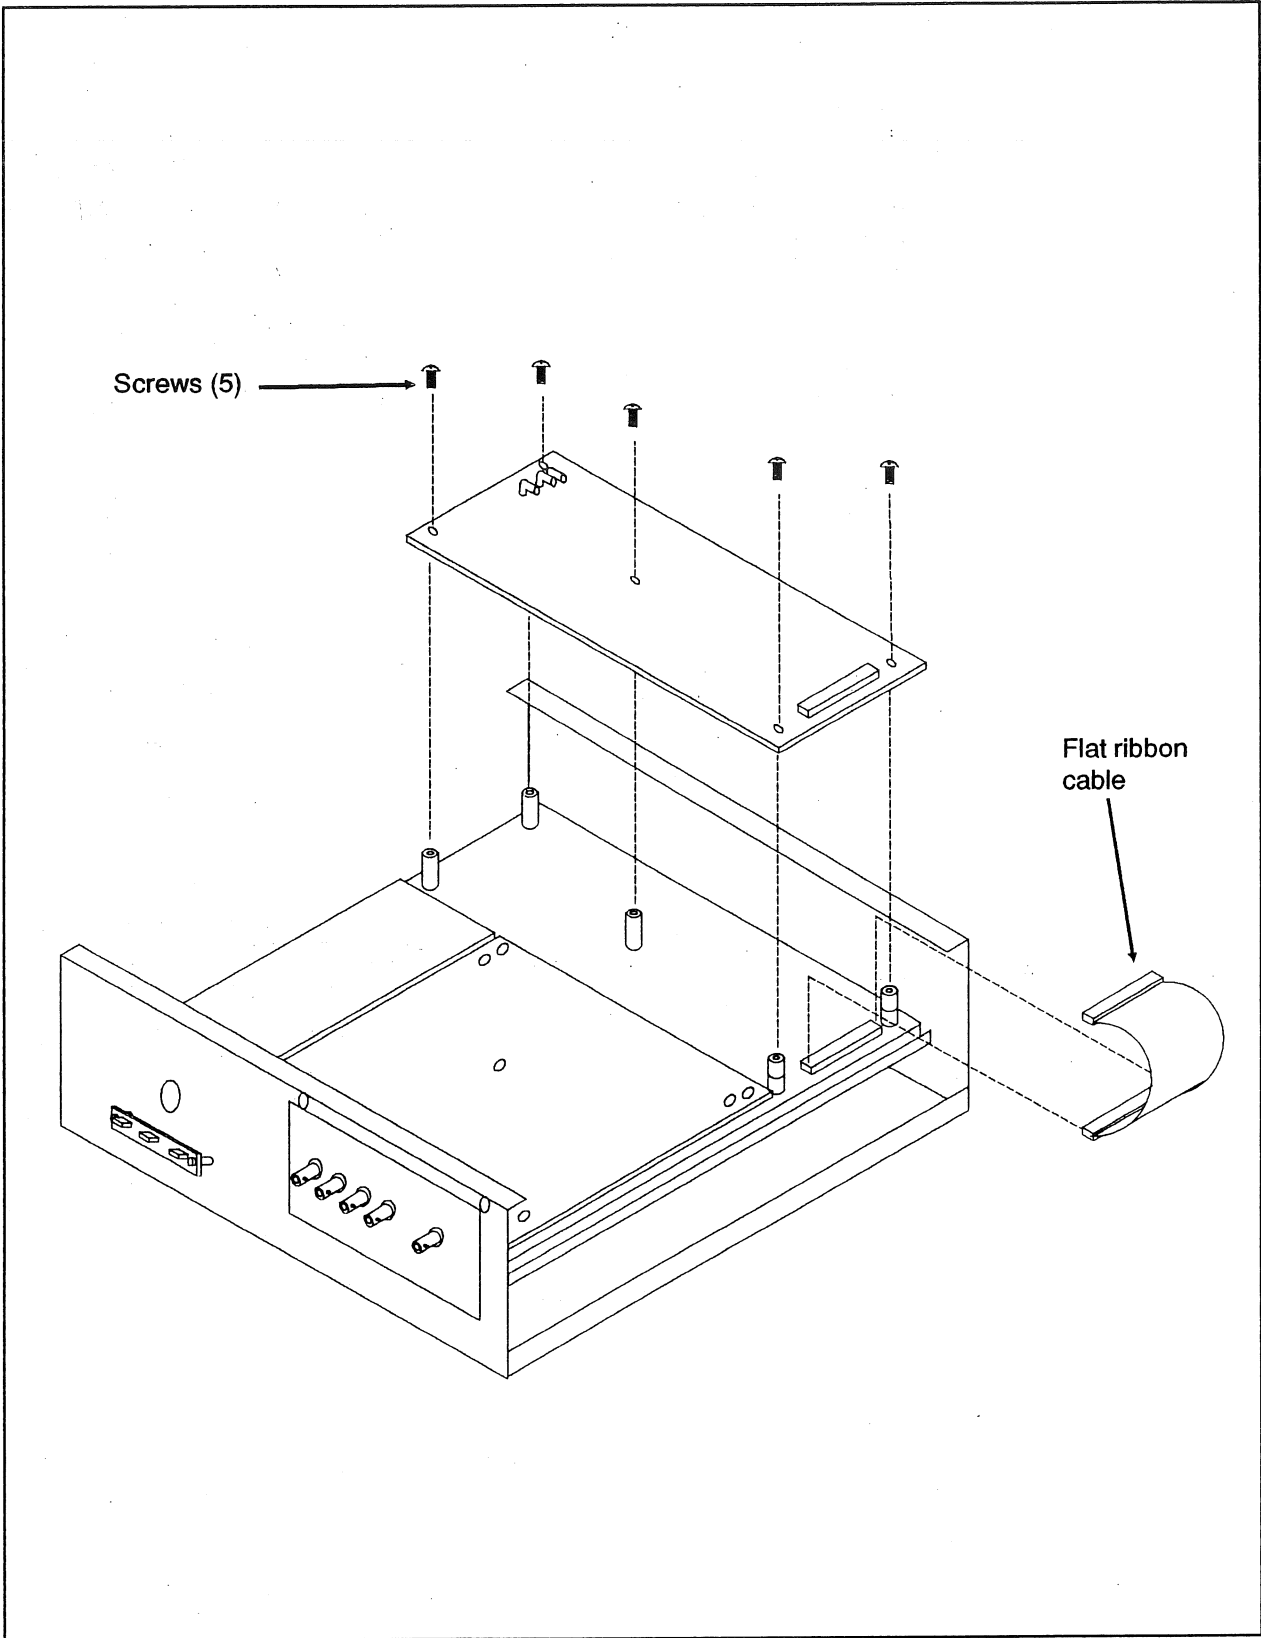

Figure 5-4. DBE Assembly
- 2** Remove two screws from the Mother Board and install the two hinge pins in place of the screws. See Figure 5-4.